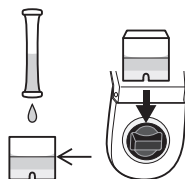

Fig.5
7. Return the sample into the cell gently, and insert the cell into the cell box. (Fig.5)